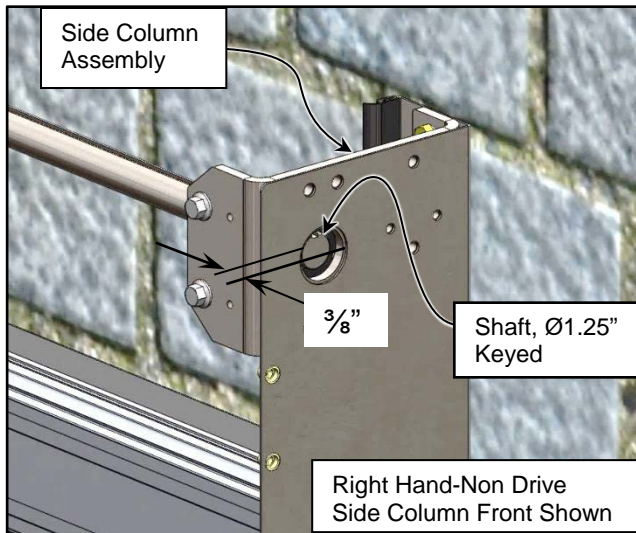
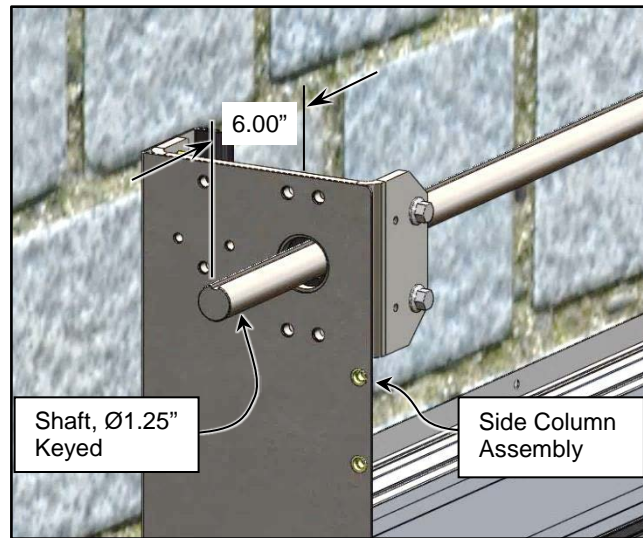

Figure 44
Figure 45
- Secure the Drive Shaft mounting bearings to the mounting brackets w/ the screws as shown. Adjust the drive shaft in the bearings so the non-drive end is approximately  $\frac{3}{8}$ " in from the outside of the non-drive side Side Column or the drive side end protrudes 6" from the drive side Side Column. *Do not* secure the sprockets to the shaft with the set screws or install the shaft keys. This will be done later. (See Figure 44 and Figure 45)